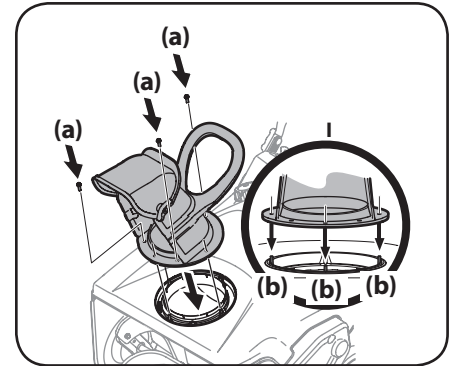

Figure 2-8
- Align the holes in the chute base with the three tabs (b) in the lower chute as shown in Figure 2-8, Inset I. Secure the chute base with the hex washer screws (a) removed in Step 2. See Figure 2-8.